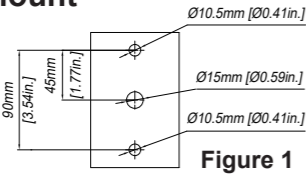

Figure 1
1. Drill holes in the wall or lamp pole according to the provided hole dimension diagram, Figure 1.